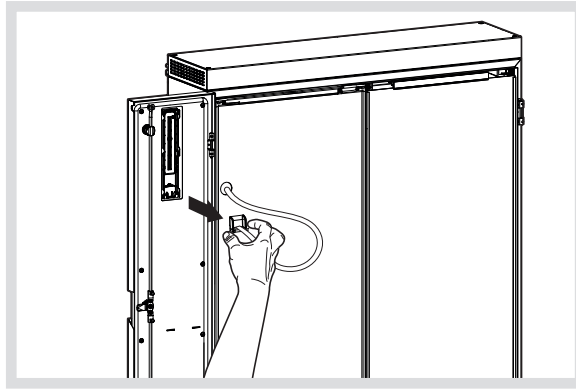

Figure 14: Pull off the plug from the LED status display
- Pull off the plug on the LED status display before removing the left door (Figure 14).